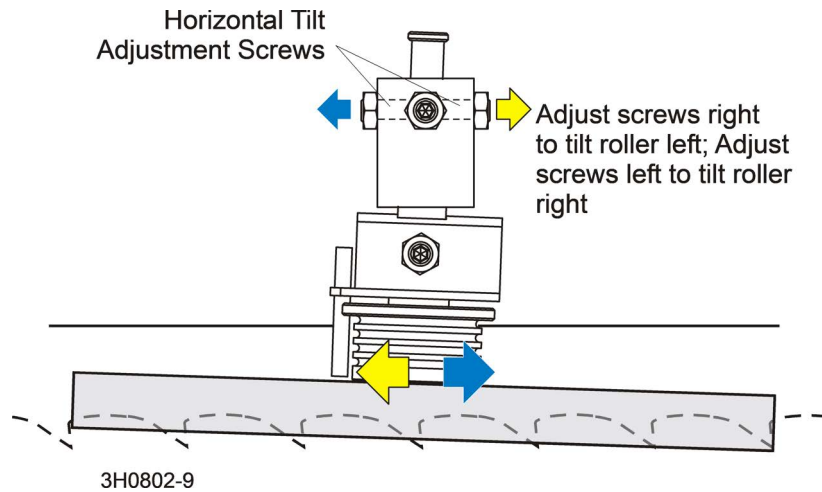

FIG. 7-7
5. Loosen the jam nuts on the horizontal tilt adjustment screws. See FIG. 7-7.